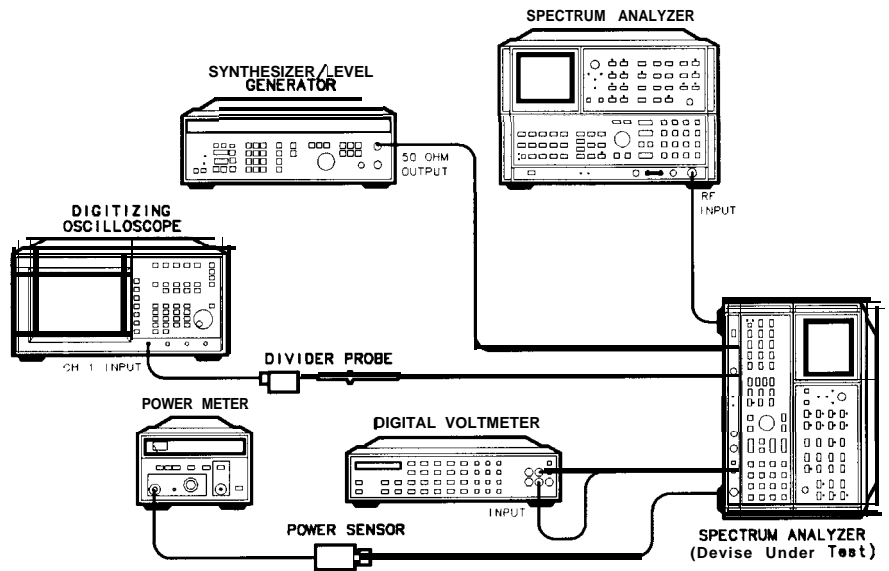
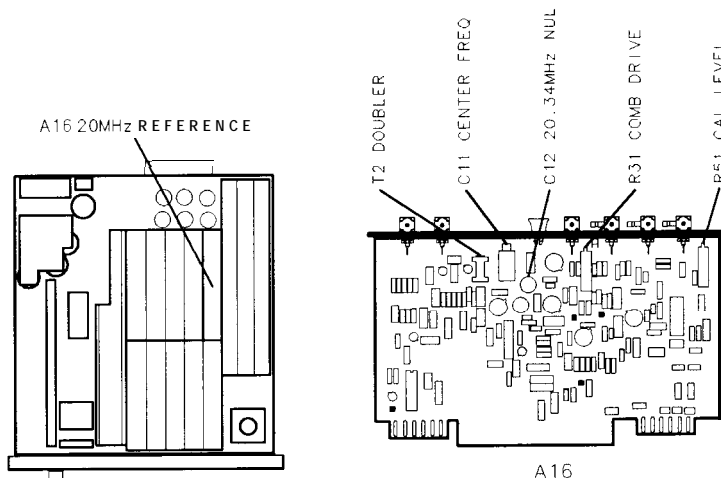

Figure 3-56. 20 MHz Reference Adjustments Setup
Figure 3-57. Location of 20 MHz Reference Adjustments
1. Position instrument on right side as shown in Figure 3-56 and remove bottom cover. Remove A16 20 MHz Reference and install on extenders. See Figure 3-57 for the location of A16 components.
7. Connect DVM to A16TP1 and ground to A22 TP12. Adjust A16 COMB DRIVE A16R31 for DVM indication of $> +0.1$ V dc. Disconnect DVM. (If DVM remains connected, it may load circuit.) See Figure 3-57 for location of adjustment.